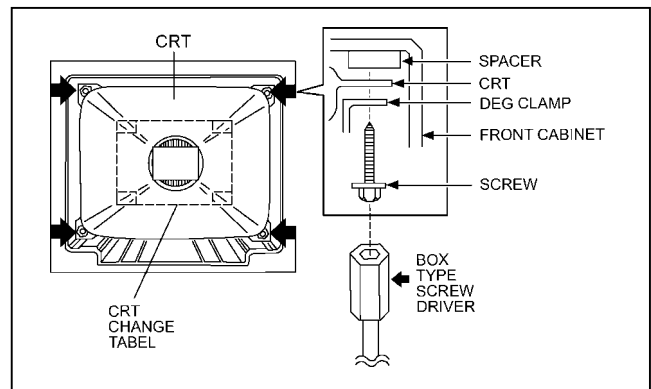

Fig. 4
- 2. While keeping the surface of CRT down, mount the TV set on the CRT change table balanced will as shown in Fig.4.
- 3. Remove 4 screws marked by arrows with a box type screw driver as shown in Fig.4.
- * About CRT Spacer (Fig.4)